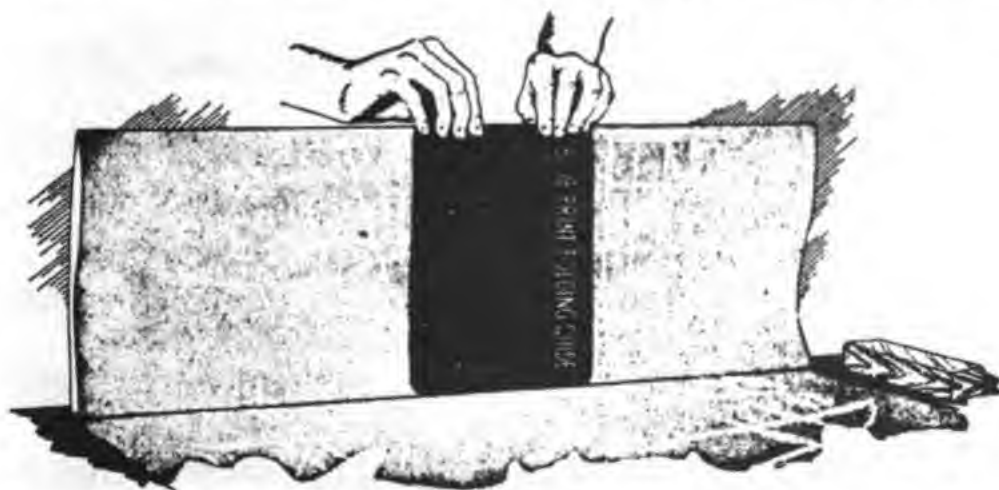

Figure 1-3.—Successive folds, like the first, measure 11 inches. The last fold may be less than 11 inches.
5. On all roll-size blueprints (that is, on all prints except those of the sizes listed above) the accordion fold is made by use of the folding board. In each case the first fold (fig. 1-2) is made from the end that carries the drawing number, and it is an 11-inch fold. Each fold thereafter (fig. 1-3) is 11 inches, except the last, which in some cases may be less. After the LENGTH of the print has been folded down into the required number of 11-inch accordion folds, the WIDTH is folded in 8½-inch folds. (See fig. 1-4.) These may be rolled or straight folds.